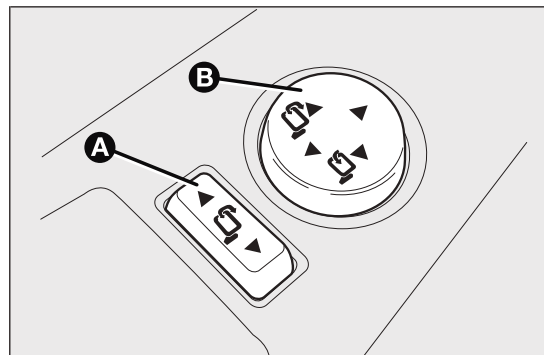

fig. 24
- position selector A fig. 24 in neutral position (no mirror selection);
- fold the mirror using joystick B in the side directions fig. 24;